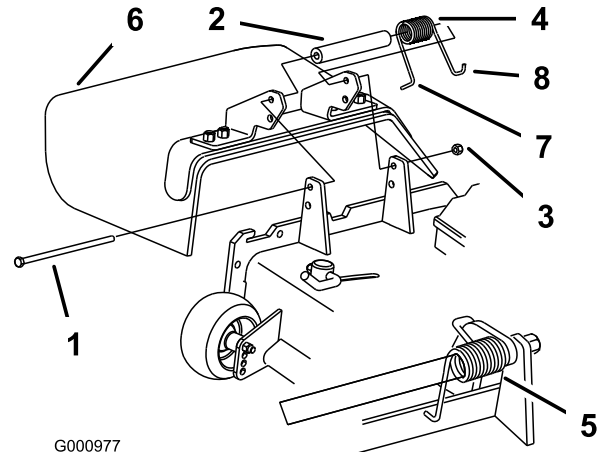

Figure 89
Note: Make sure that the L-end of the spring is installed behind the deck edge before installing the bolt as shown in Figure 89.
3. Install the bolt and nut. Place the J-hook end of the spring around the grass deflector (Figure 89).
1. Remove the locknut, bolt, spring, and spacer holding the deflector to the pivot brackets (Figure 89). Remove the damaged or worn grass deflector.